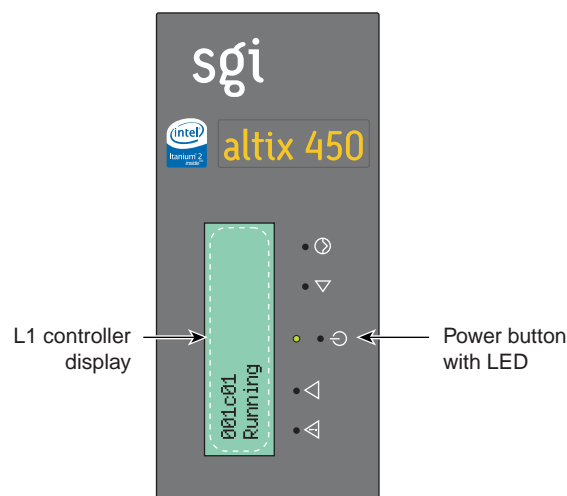

Figure 1-21 Location of the Power Button
3. Press the power buttons (see Figure 1-21) on each of the IRUs that you want to power on. Note that any optional storage modules should be powered up first.
- To power off the IRUs, press the power button with the LED on the front panel of each unit (see Figure 1-21 on page 41).